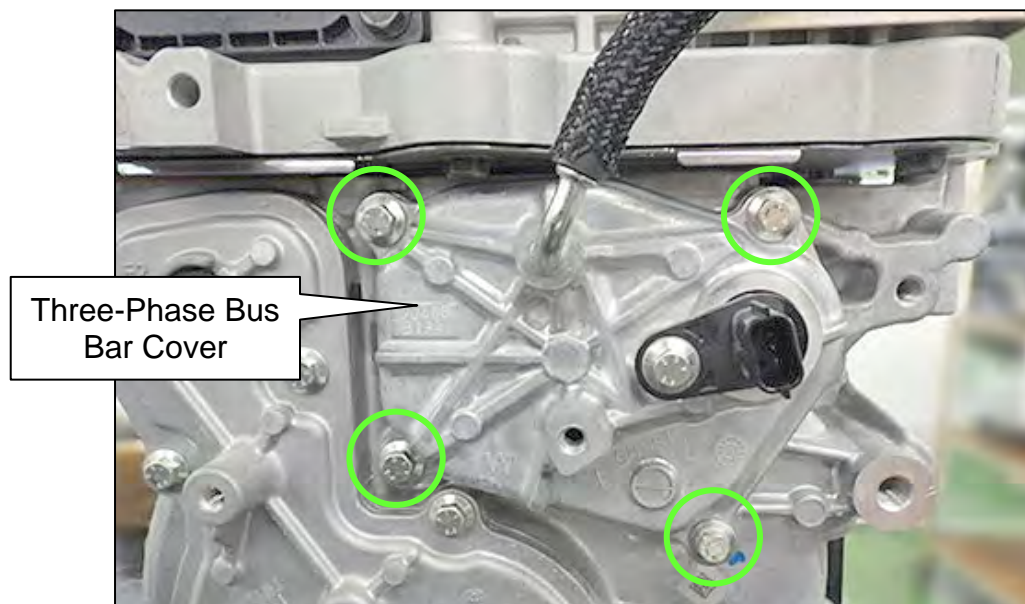

Figure 98
- Four (4) bolts.
- Refer to Figure 98 on page 50.